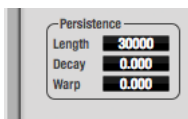

Figure 9-46: The Persistence controls.
The *Persistence* controls (Figure 9-46) affect the appearance of data from when it is first displayed until it disappears from the grid.
*Length* (Figure 9-46) sets the number of recent samples to show on the plot. For example, when *Length* is set to 10,000, the 10,000 most recent samples are shown.
*Decay* (Figure 9-46 on page 91) determines the brightness or hue of the minimum value. When *Decay* is zero, the oldest sample is black. When *Decay* is +1.000, the oldest sample is fully opaque (in Grayscale mode) or red (in Color mode).
*Warp* (Figure 9-46) determines the position of data points after they are first drawn. When *warp* is zero, data points remain in the same position.